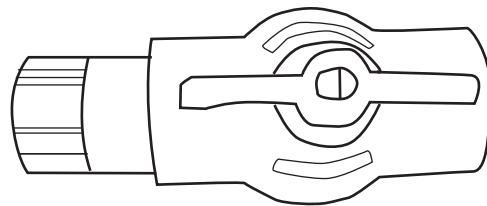

Figure 17
B.) After the glue is applied quickly insert the PVC fitting into one end of PVC ball valve as shown in Figure 17.